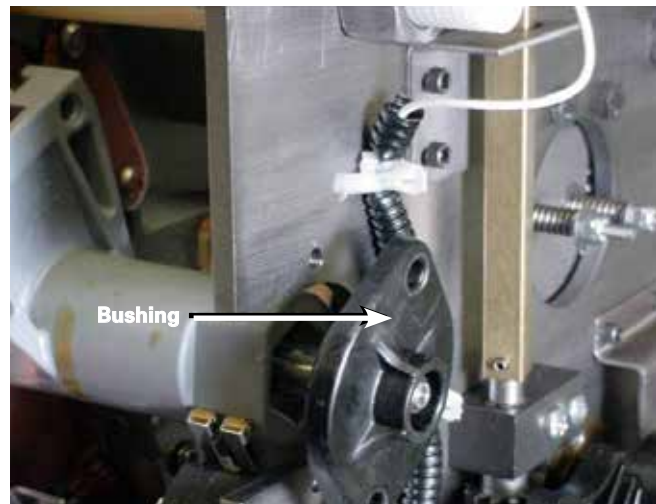

Figure 32. Removal of bushing.
3. Using a 7/16" wrench, loosen and remove both bushing-mounting bolts. See Figure 32.
4. Remove the bushing from the reversing movable contact shaft. See Figure 32.